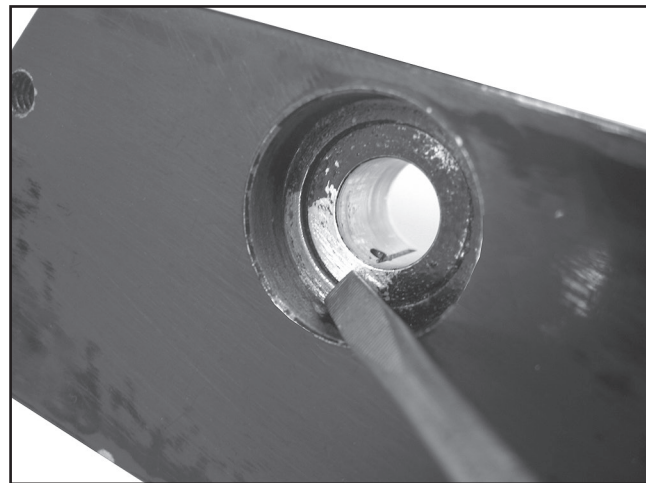

Figure 11. Bushing bore preparation.
17. Using a standard screwdriver, scrape away any paint from the bushing bore (**Figure 11**), so when the power feeder is mounted, the bushing sits properly in the bore without binding.